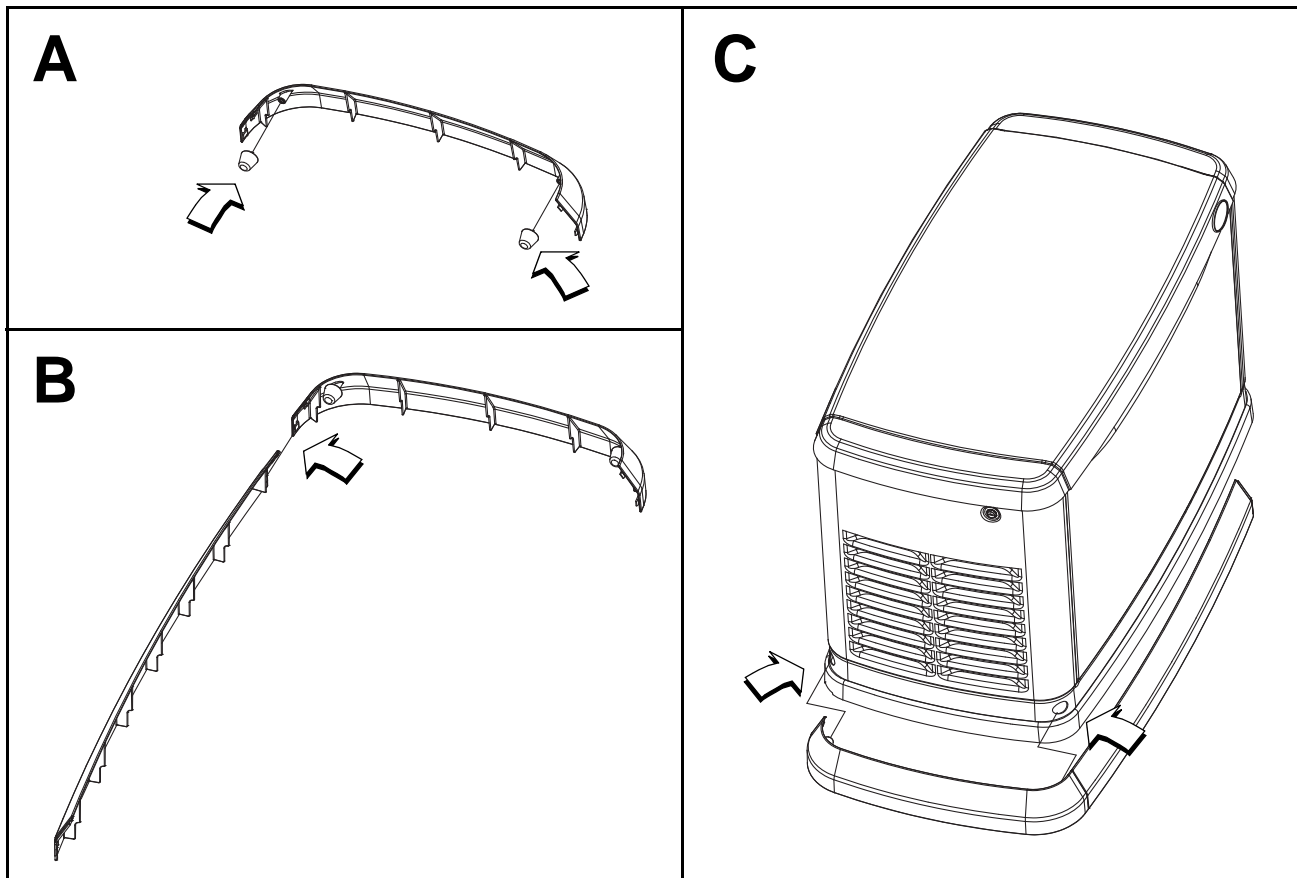

Figure 4-3. Install Fascia Skirt
2. Screw **two** rubber mounts into threaded holes of end piece. See A of Figure 4-3.
3. Snap end piece into side piece. See B of Figure 4-3.
4. Fit rubber mounts in end piece into lifting holes at base of generator. See C of Figure 4-3.